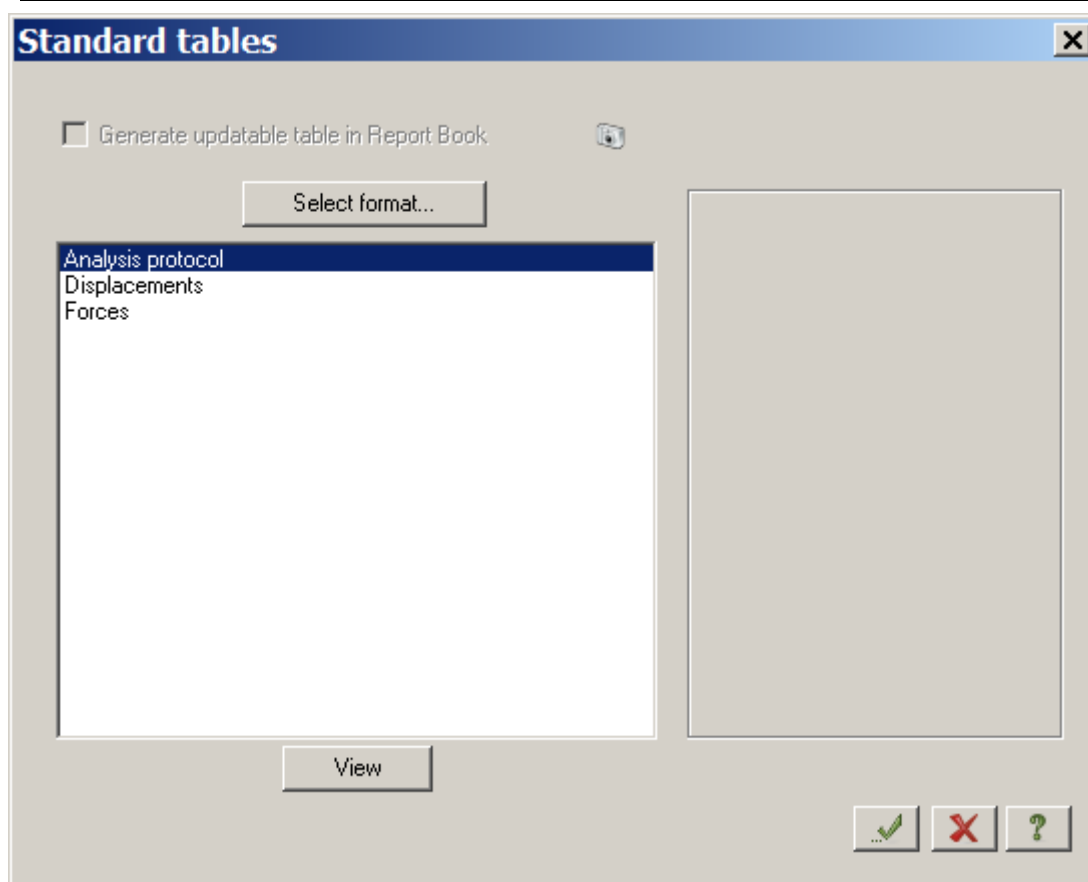

Figure 8.26 **Standard tables** dialog box
- ⇒ In the **Standard tables** dialog box (see Fig.8.26), select **Analysis protocol** in the list.